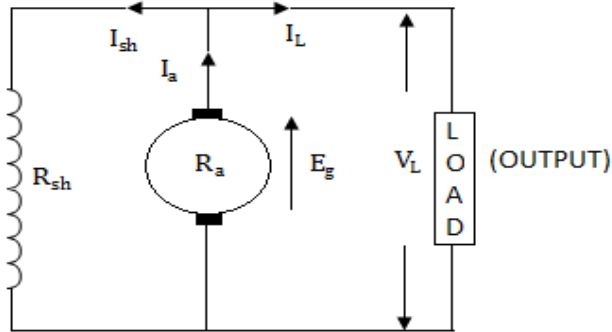

Fig. 9.5 (a)
9.10.2 **DC shunt machine:** In DC shunt machine field and armature winding are connected in parallel. The DC shunt generator and DC shunt motor is shown in fig. 9.5 (a) and 9.5 (b) respectively.